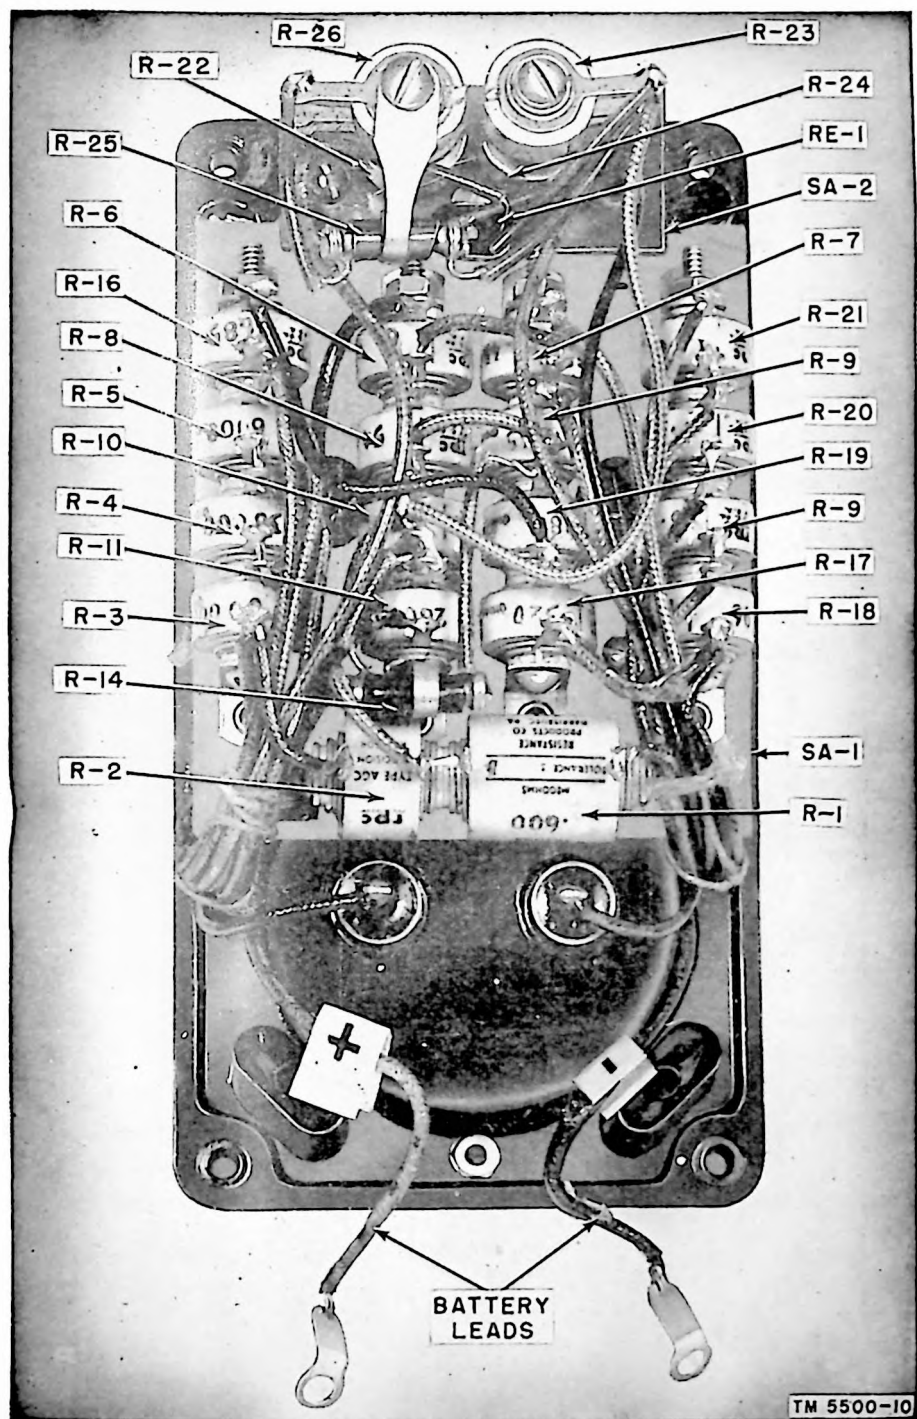

Figure 10. Multimeter subpanel.
(3) Illustrations, particularly front and back views of the subpanel, which will help in locating and identifying parts (figs. 10 and 11).